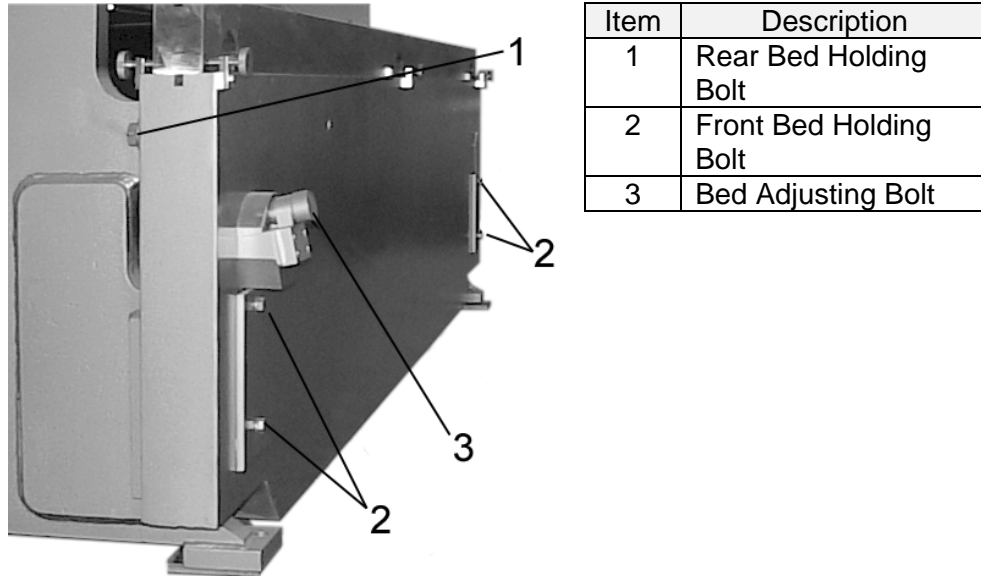

Figure 9: Bed Tilt Wedge Assembly
1. To adjust the bed, loosen the six bed holding bolts. Two are located on the rear side of the bed, one on each end of the press. The other four are located front side of the bed, two on each end of the bed. (See *Figure 9 Items 1 & 2*).
2. Rotate the adjusting bolt clockwise to lift the bed and counterclockwise to lower. (See *Figure 9 Item 3*).
3. Snug the bed holding bolts. The bed holding bolts should only be snug enough to compress the lock washers, but should not be over tightened. (See *Figure 9 Item 1 & 2*)